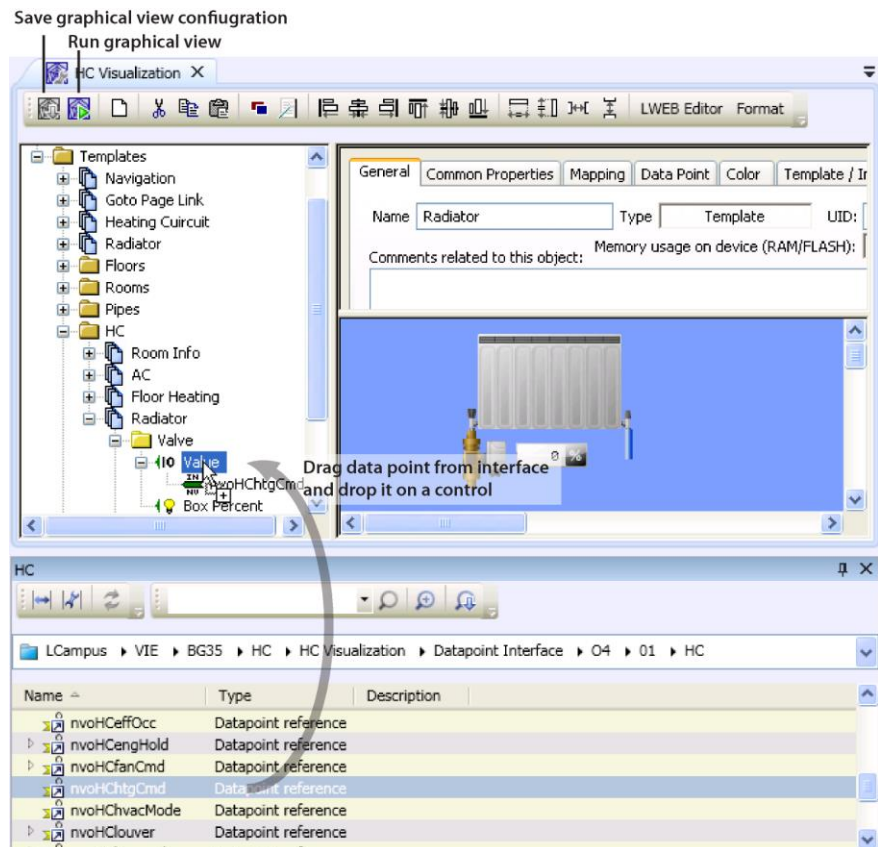

Figure 96: Design Graphics
*Note* If you dock an object list view showing the data point interface to the graphical design tool, you can quickly attach data points to controls using drag-and-drop (see Figure 96).